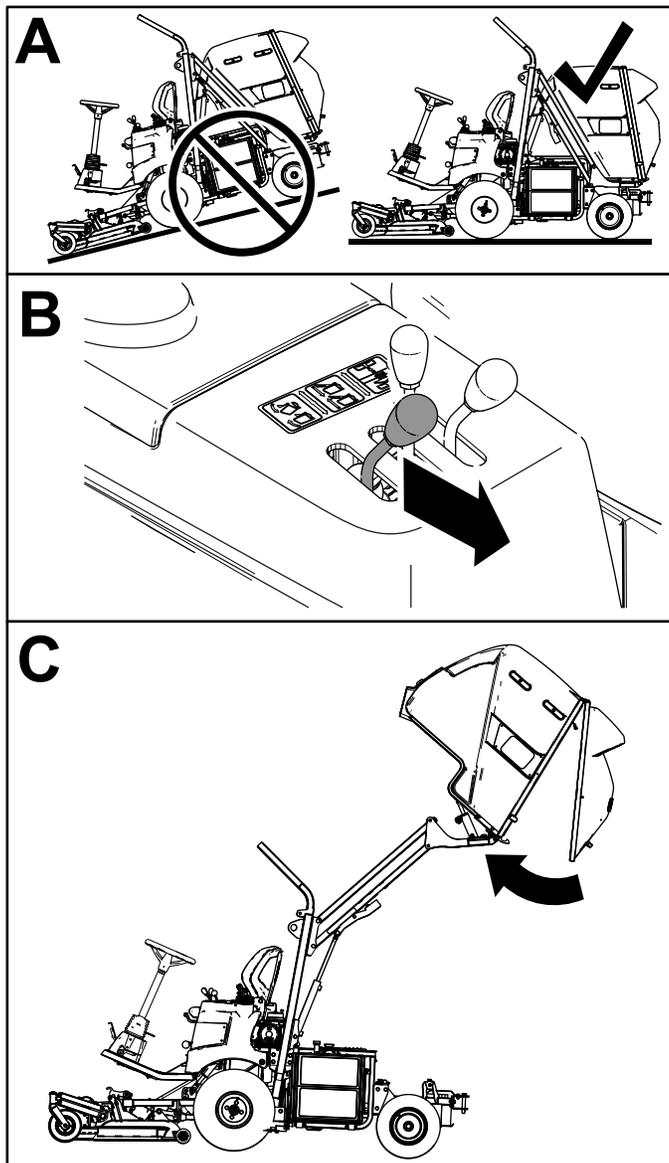

Figure 26
2. After dumping, move the hopper dump lever forward to close the hopper (Figure 26).